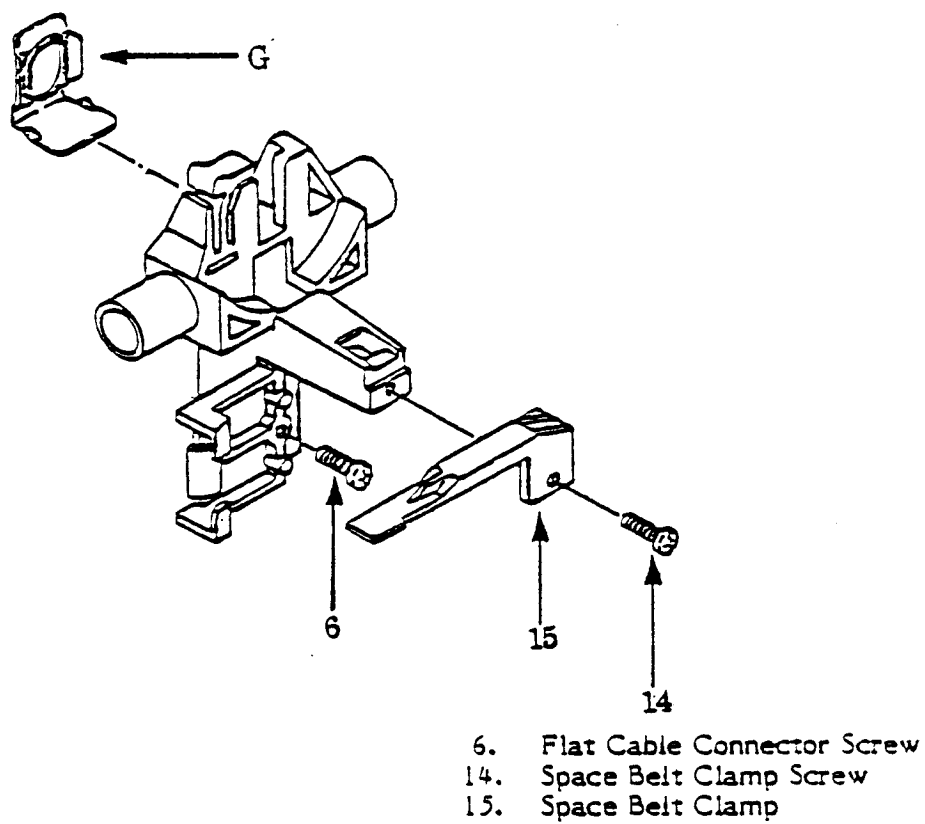

Figure 4-3. Carriage Assembly (S)
- Attach and secure the space belt clamp with the belt clamp screw (Figure 4-3, #14 and 15).
- Secure the flat cable connector with the flat cable connector screw (Figure 4-3, #6) to the carriage assembly.
- Attach the space belt clamp (Figure 4-3, #14,15) to the carriage assembly.
- Push the carriage assembly to the left. Attach the flat cable connector with the flat cable connector screw (Figure 4-3, #6) to the carriage assembly.